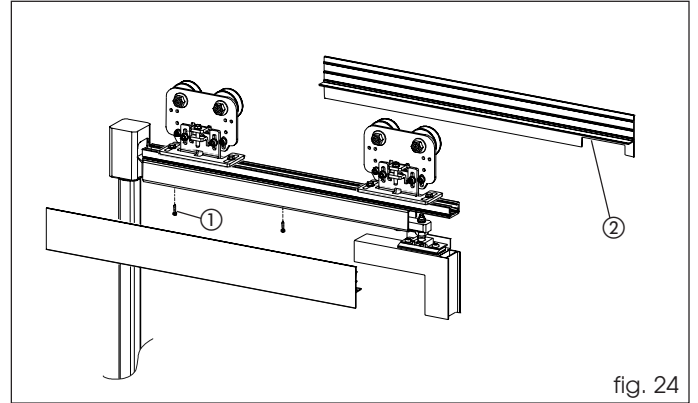

fig. 24
Provisionally position the panel support screws on the top rod (fig.24 ref. ①) and rest the two covering panels, using the slots. Mark and cut the two covering panels to cover the leaf completely.
Make an opening on the panel (fig. 24 ref. ②), at the panel closure cover, to prevent the panel from interfering with the leaf break-out.